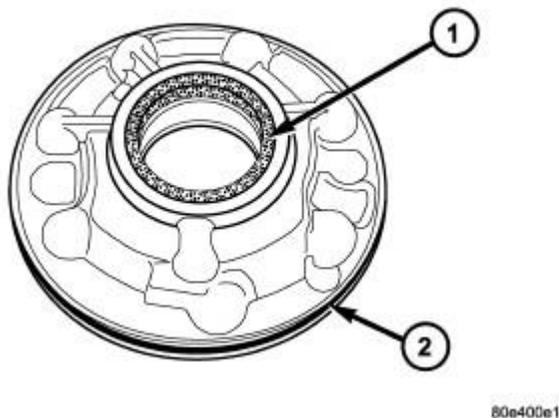

Fig. 176: Identifying Oil Pump Seals
2. Remove the inner oil pump seal (1). Refer to **Fig. 176**.
3. Replace the outer oil pump O-ring (2). Refer to **Fig. 176**.